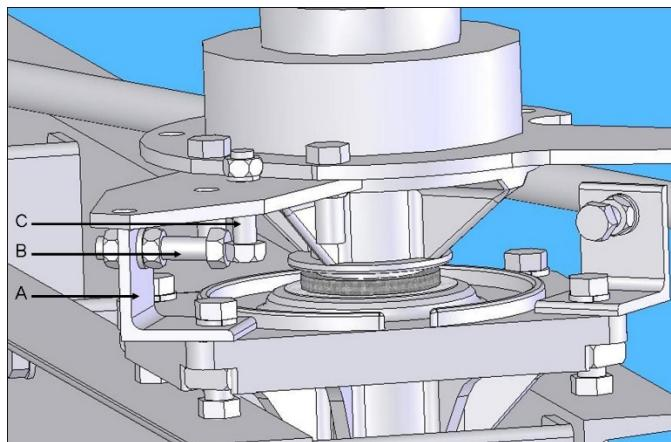

Figure 11: Blade Stops (Heavy Duty Bearing)
2. Back off the Blade Stops on insulator stack, Refer to **Figure 11**.
3. With the male and female blade assemblies in the closed position verify, using a level, that both blades are in the same plane and that their centerlines are aligned. A slight variance is acceptable provided that the male contact is approximately perpendicular in the female contacts. Refer to **Figure 11**.
- Use only DRIVING phase stop to set up the switch, with the other two stops completely backed off, then adjust the crank arm stop or rest within 1/4" inch of the blade stops (Refer to **Figure 11**). If adjustment is necessary, loosen the nuts on the adjusting bolt and adjust the bolt until the distance between the blade stop and the stop is correct. Torque the nuts to proper value. (See Table 2)